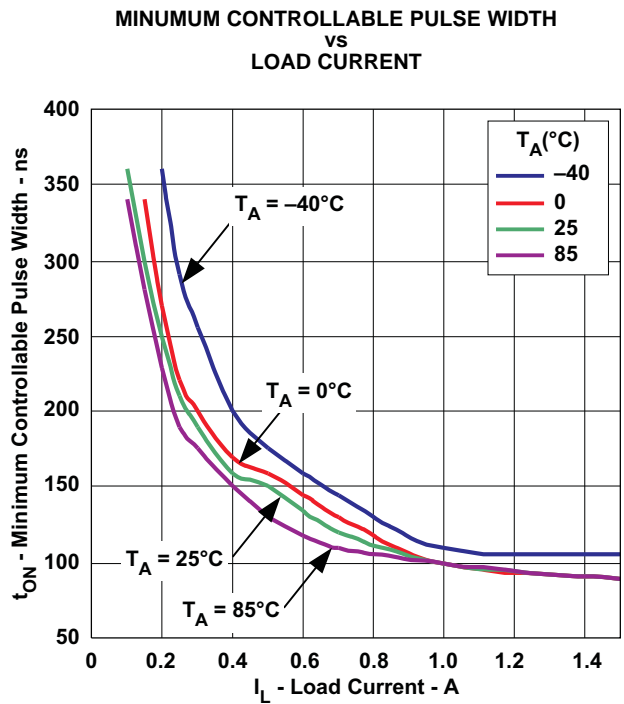

Figure 14.
(3) Ensured by design. Not production tested.
(4) See Figure 14 for  $I_{SWx}$  peak current  $< 1\text{ A}$ .